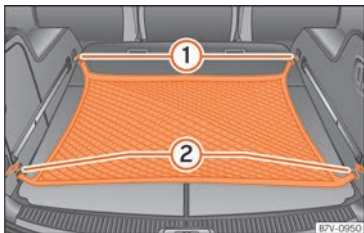

Fig. 177 In the boot: net used on secured baggage
- Hook the baggage net into the fastening rings »» Fig. 177 ① and ②.
- Carefully unhook the baggage net hooks from the fastening rings »» Fig. 177 ①.
- Carefully unhook the baggage net hooks from the fastening rings »» Fig. 177 ②.